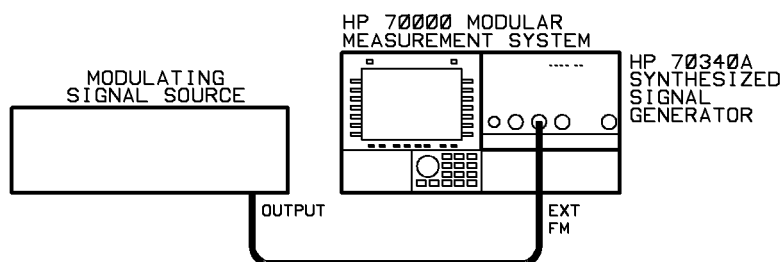

Figure 3-1. AC FM Equipment Setup
1. Connect the equipment as shown in Figure 3-1:
In the following example, an internally leveled, AC coupled FM signal will be generated at a carrier frequency of 12.5 GHz with a power level of -5 dBm. In order to accomplish this, connect the equipment as shown in Figure 3-1, set the modulating signal source for the desired FM characteristics, and then run the following program.